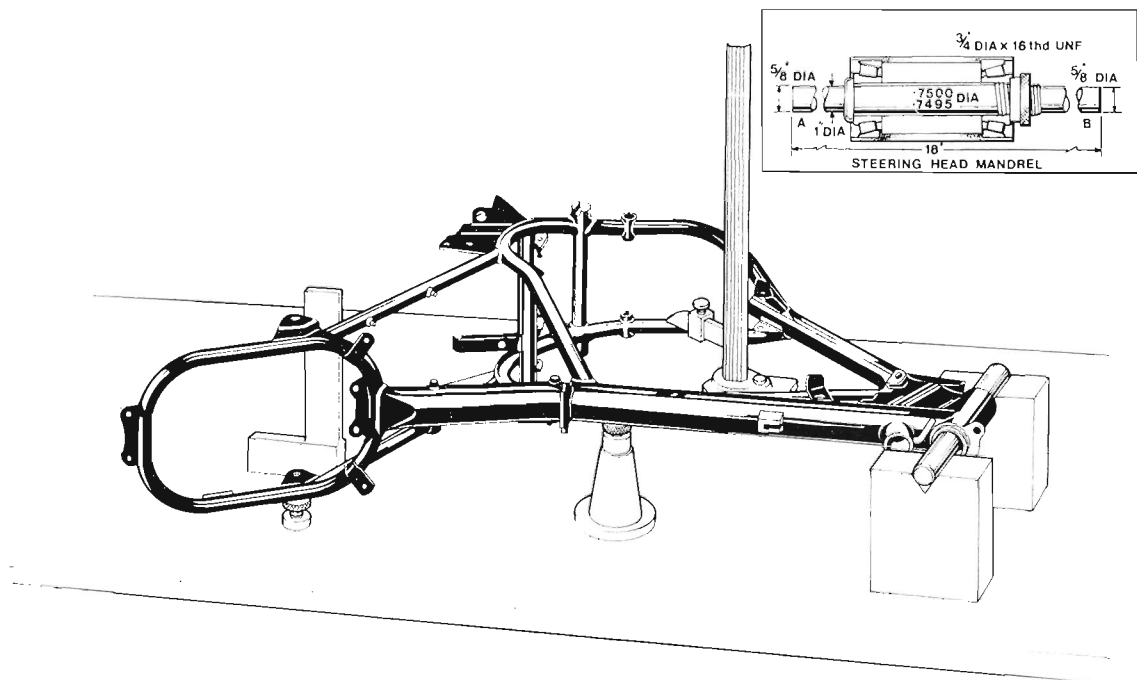

Fig. D2. Showing frame on setting table
- One mandrel See Fig. D2 for dimensions.
If a scribing block is used, then an 18 in. steel rule will also be required. The mandrels must be straight and round, otherwise measurements will be affected. Figure D2 shows the basic set-up for checking the frame, though variations can of course be used according to the facilities available.